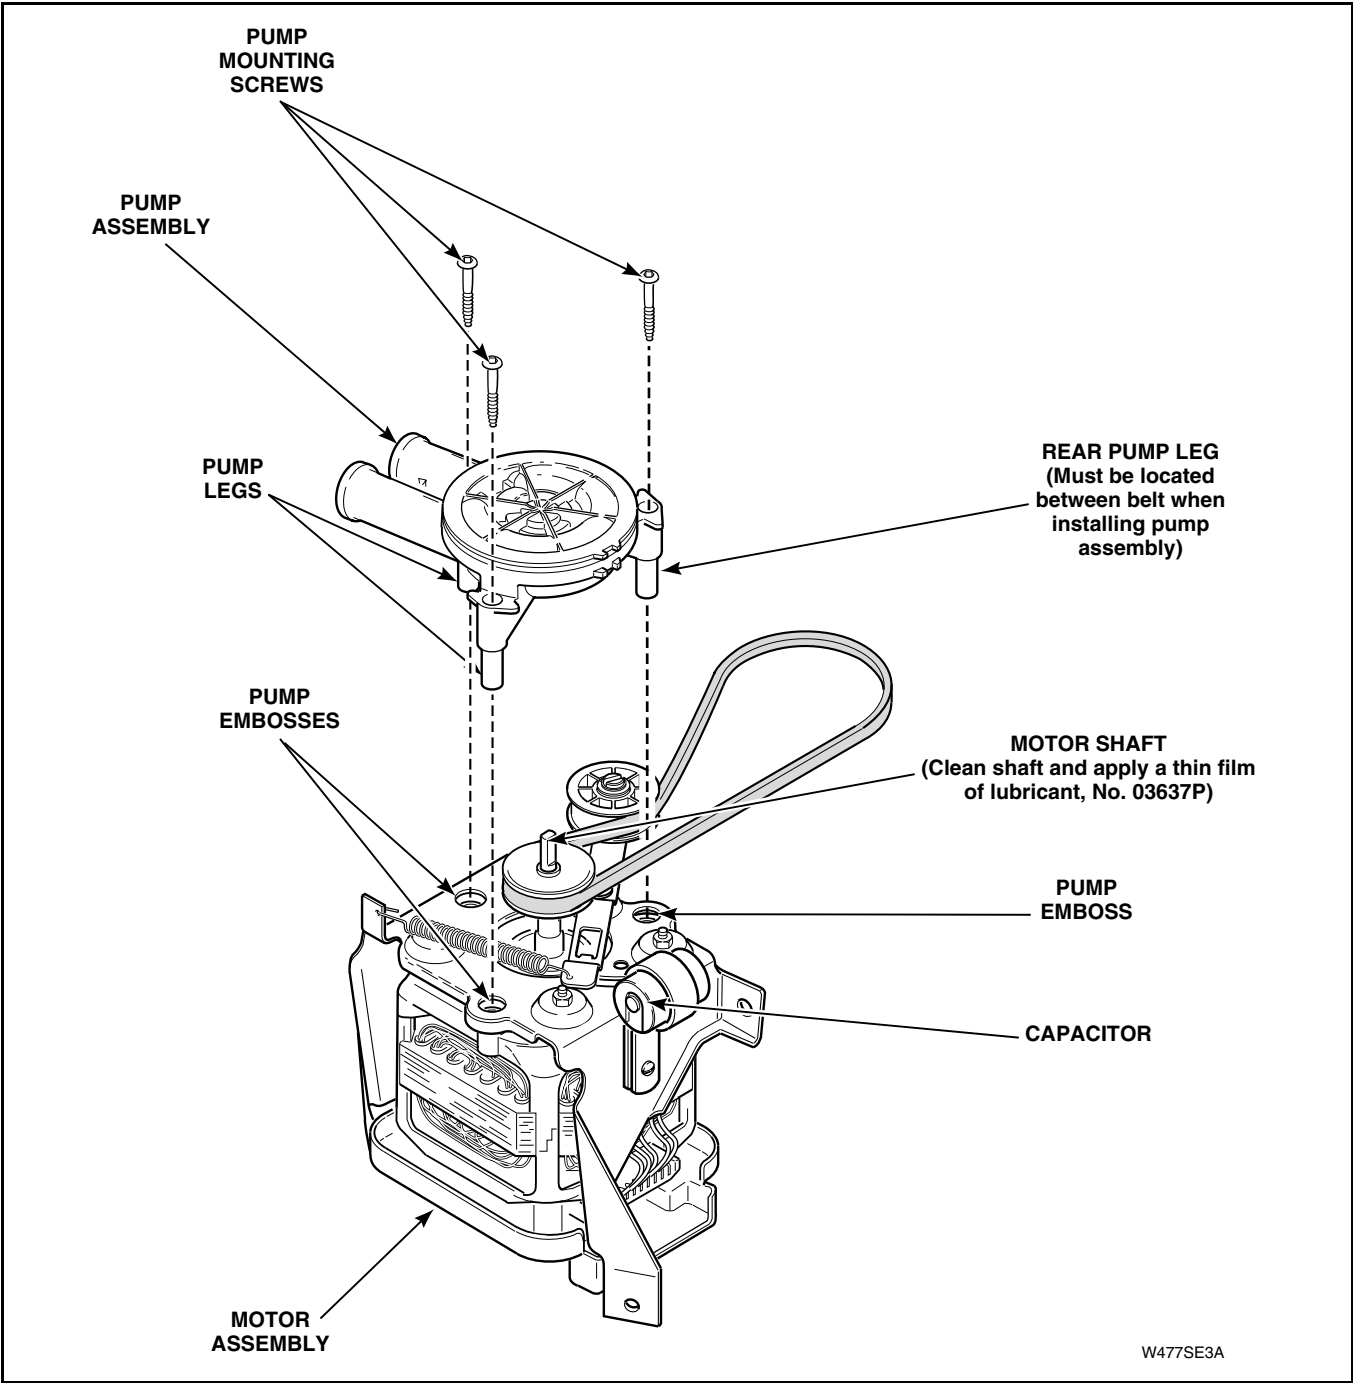

Figure 41
IMPORTANT: Carefully lay motor on its side. Observe belt configuration around rear pump leg. Belt **MUST** encircle rear pump leg when reassembling. Refer to *Figure 41*.
- a. Remove three screws holding pump assembly to motor. Refer to *Figure 41*.
- c. Align pump impeller hub with motor shaft. Make sure belt encircles rear pump leg, carefully push pump onto motor shaft so three pump legs bottom out in the embosses on motor housing before screws are tightened. Refer to *Figure 41*.